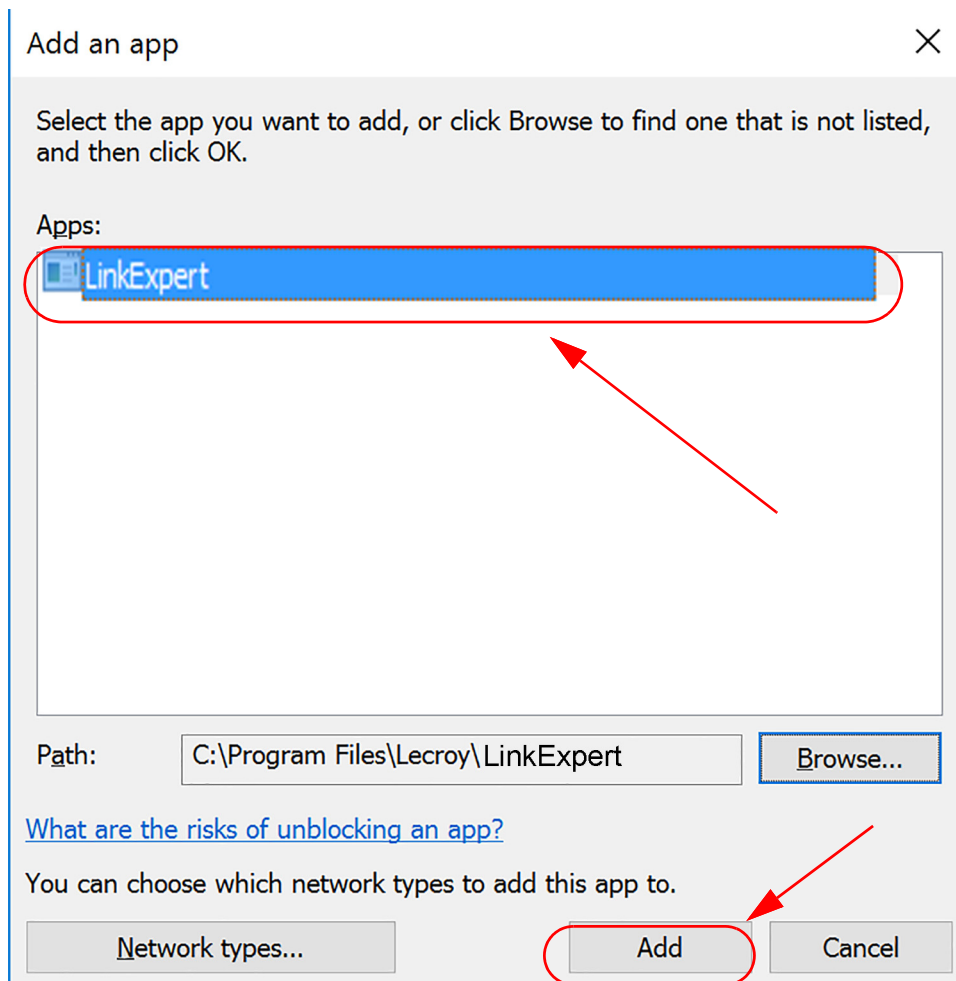

Figure 2.8: Windows Server 2016/2019: Add an Application to the Firewall Exceptions
9. If necessary, select the Teledyne LeCroy LinkExpert you want to add. Then click on “ADD”, this will add the Teledyne LeCroy LinkExpert to the Apps allowed through the Firewall. See Figure 2.8.